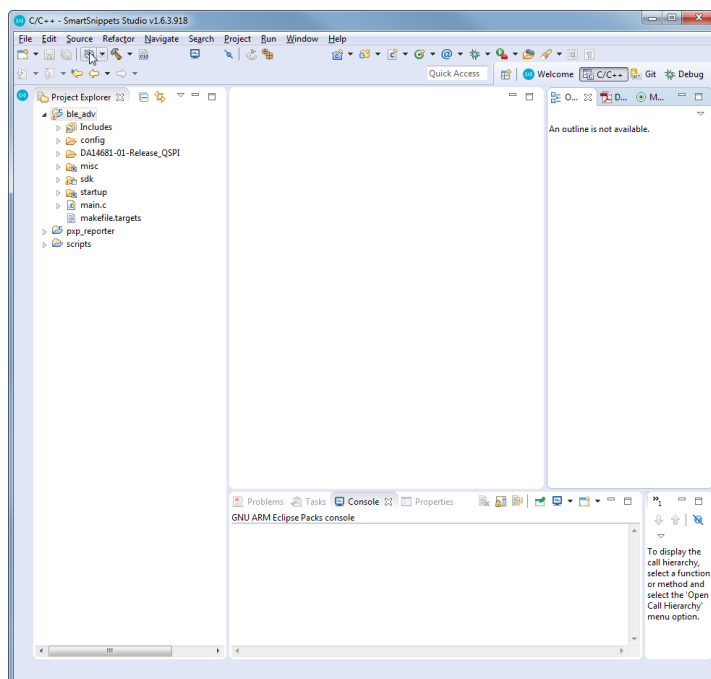
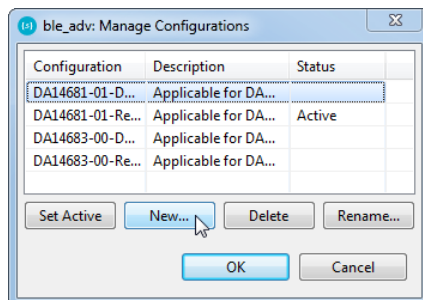

Figure 1: Configuration manager Selection
Figure 2: Create new configuration
1. Open the configuration manager (Figure 1) and select a new configuration (Figure 2).